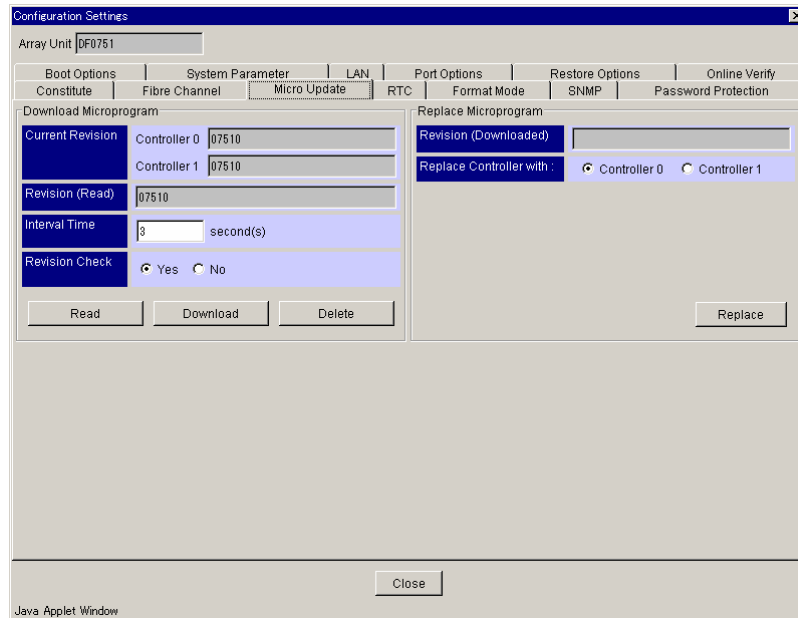

Figure 9.43 Configuration Settings - Revision
7. When a message displays indicating that the microprogram has been read, click **OK**. The revision of the read microprogram displays in the **Revision (Read)** field. See Figure 9.43.